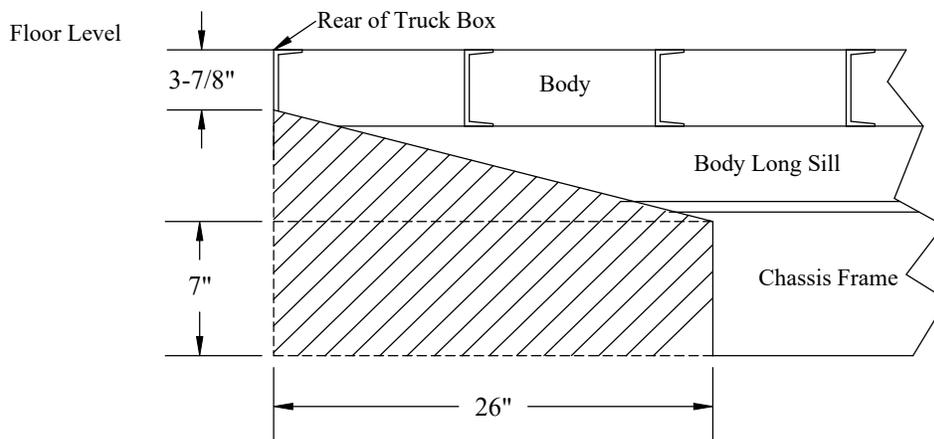
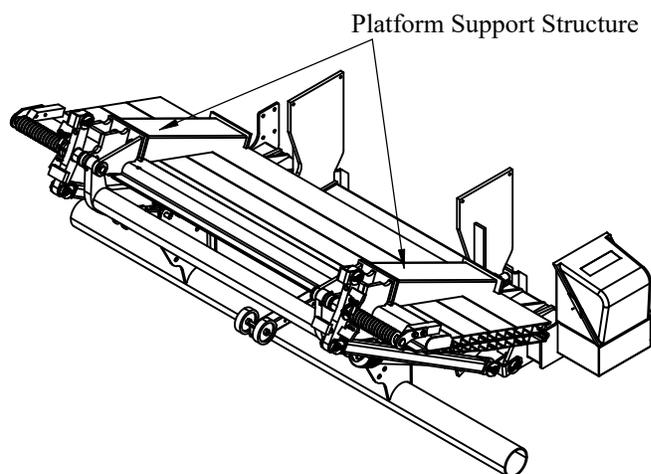

Figure 9: Frame Trim Dimensions.
Figure 10: Platform Support Structure.
- 5. Measure** the truck frame for platform folding clearance using the layout (Figure 9) to provide clearance for the Platform Support Structure (Figure 10).